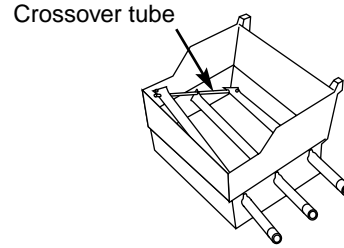

Figure 14
- g) Lift and twist the burner assembly slightly, to separate the crossover tube from the burners. Figure 14. Remove the burners from the cooking box.